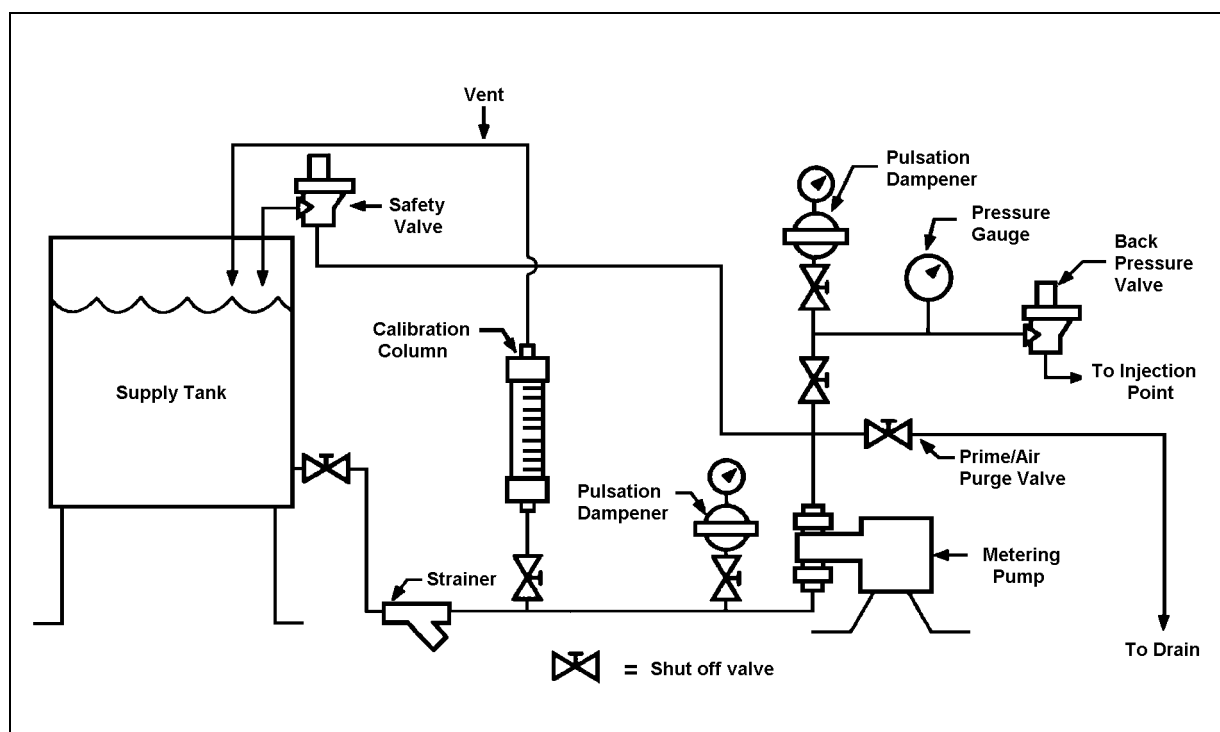

Figure 4. Typical Recommended Pump Installation Scheme
- See Figure 4 for a typical recommended pump installation scheme.
A Milton Roy Back Pressure Valve (Figure 4) should be installed in the discharge line near the pump to ensure sufficient discharge head pressure for proper pump metering action. Back pressure valves for large pumps with long and extremely small discharge lines may have to be installed near the point of discharge into the process (to minimize siphoning tendencies).
Install the safety valve in the discharge line between the pump and the nearest shut-off valve. (This will prevent pump damage from accidental valve closure.) Pipe the safety valve outlet back to the suction tank or to drain, but in either case ensure that the pipe end is continuously visible so safety valve leakage may be detected. Milton Roy safety valves must be installed at top of supply tank in order to function properly (see Figure 4).
Provide shut-off valves in both suction and discharge lines next to the pump. Locate discharge line shut-off valve downstream from the inlet connection of the safety valve. Figure 4 shows recommended valve locations.